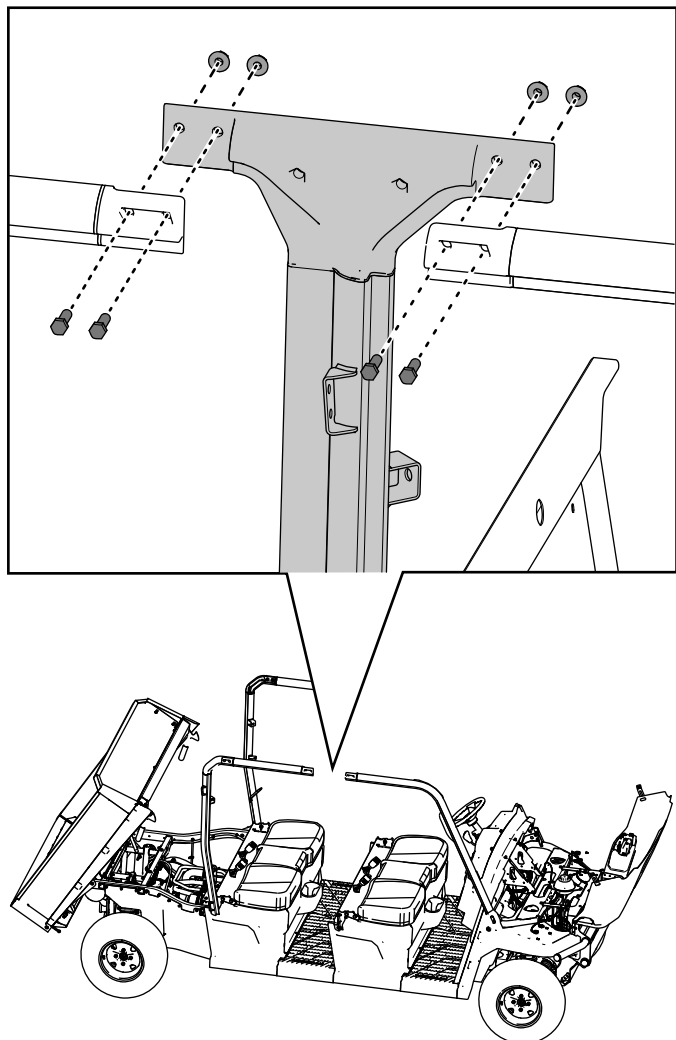

Figure 46
12. Loosely secure the top of the right, middle roll bar assembly to the right, front and rear roll bar assemblies using 4 hex-head bolts (3/8 x 1-1/4 inches) and 4 locknuts (3/8 inch) as shown in Figure 46.